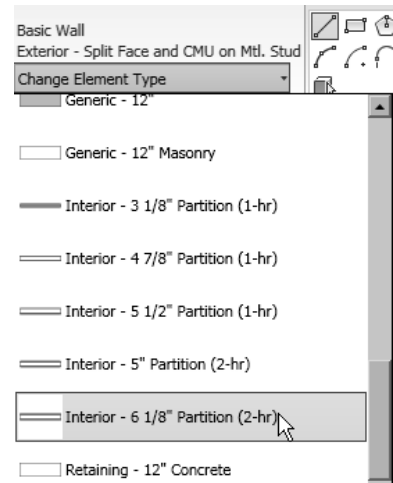

Figure 3-64 Selecting the interior wall type from the **Change Element Type** drop-down list
- b. Invoke the **Wall** tool and select the **Interior - 6 1/8" Partition (2-hr)** wall type, refer to Figure 3-64.
1. Select **Interior - 6 1/8" Partition (2-hr)** from the **Change Element Type** drop-down list, as shown in Figure 3-64, in the **Element** panel of the **Place Wall** tab of the ribbon.